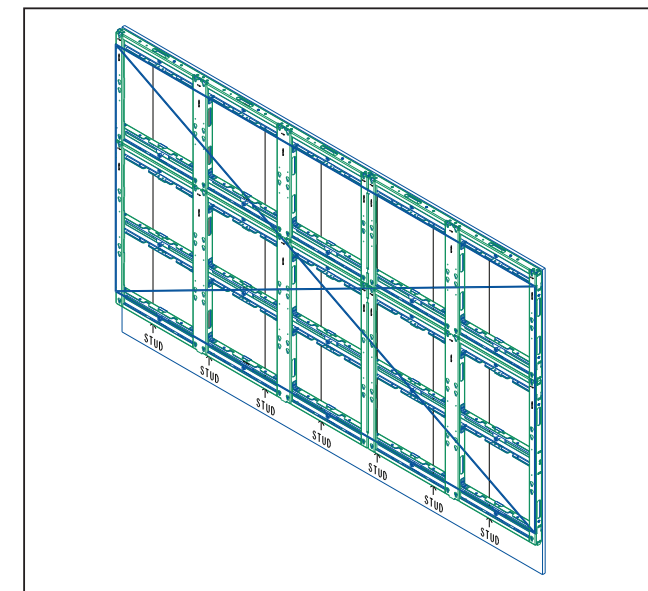

Figure 13: Secure String Line
2. Use the frame alignment tabs closest to the display corners and secure a string line in an X pattern. Refer to **Figure 13**.